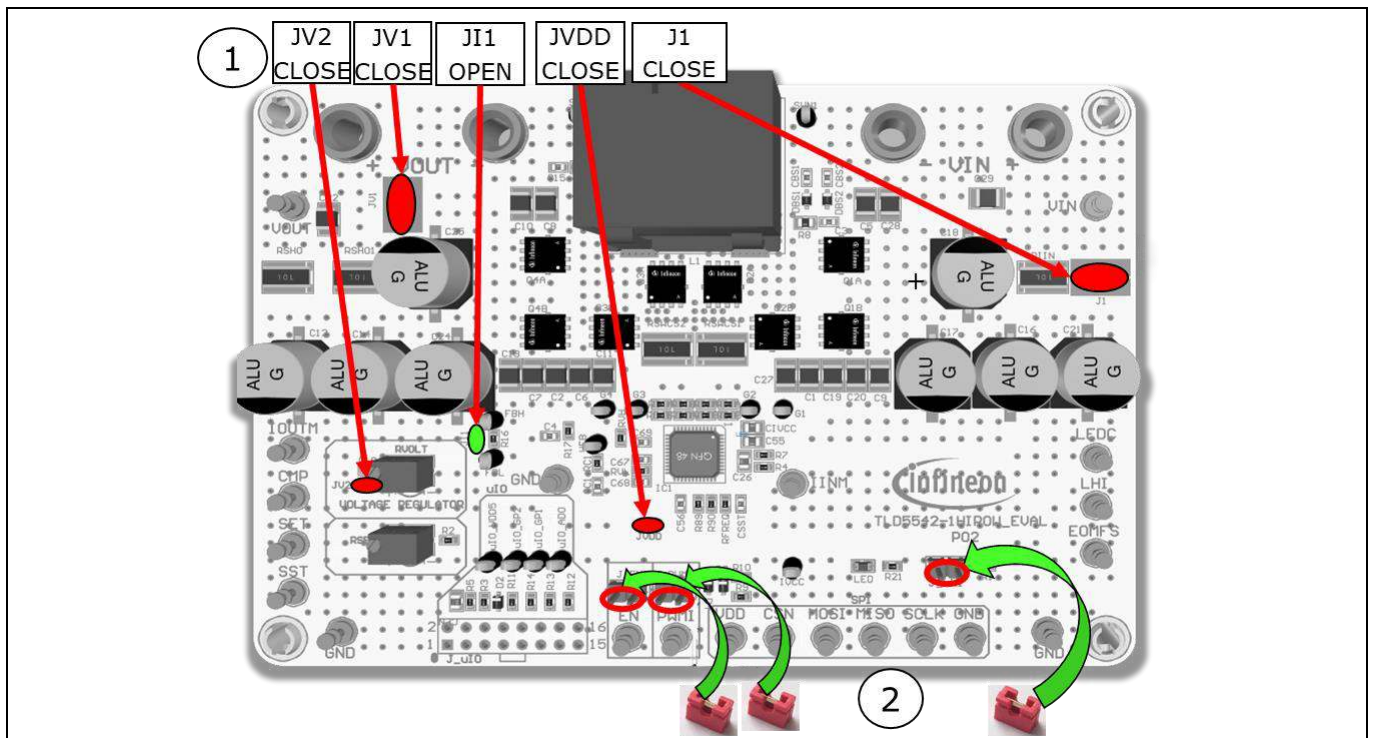

Figure 6 Jumpers to be set for voltage regulator mode no μ C
1. Configure all solder jumpers as shown in Figure 6